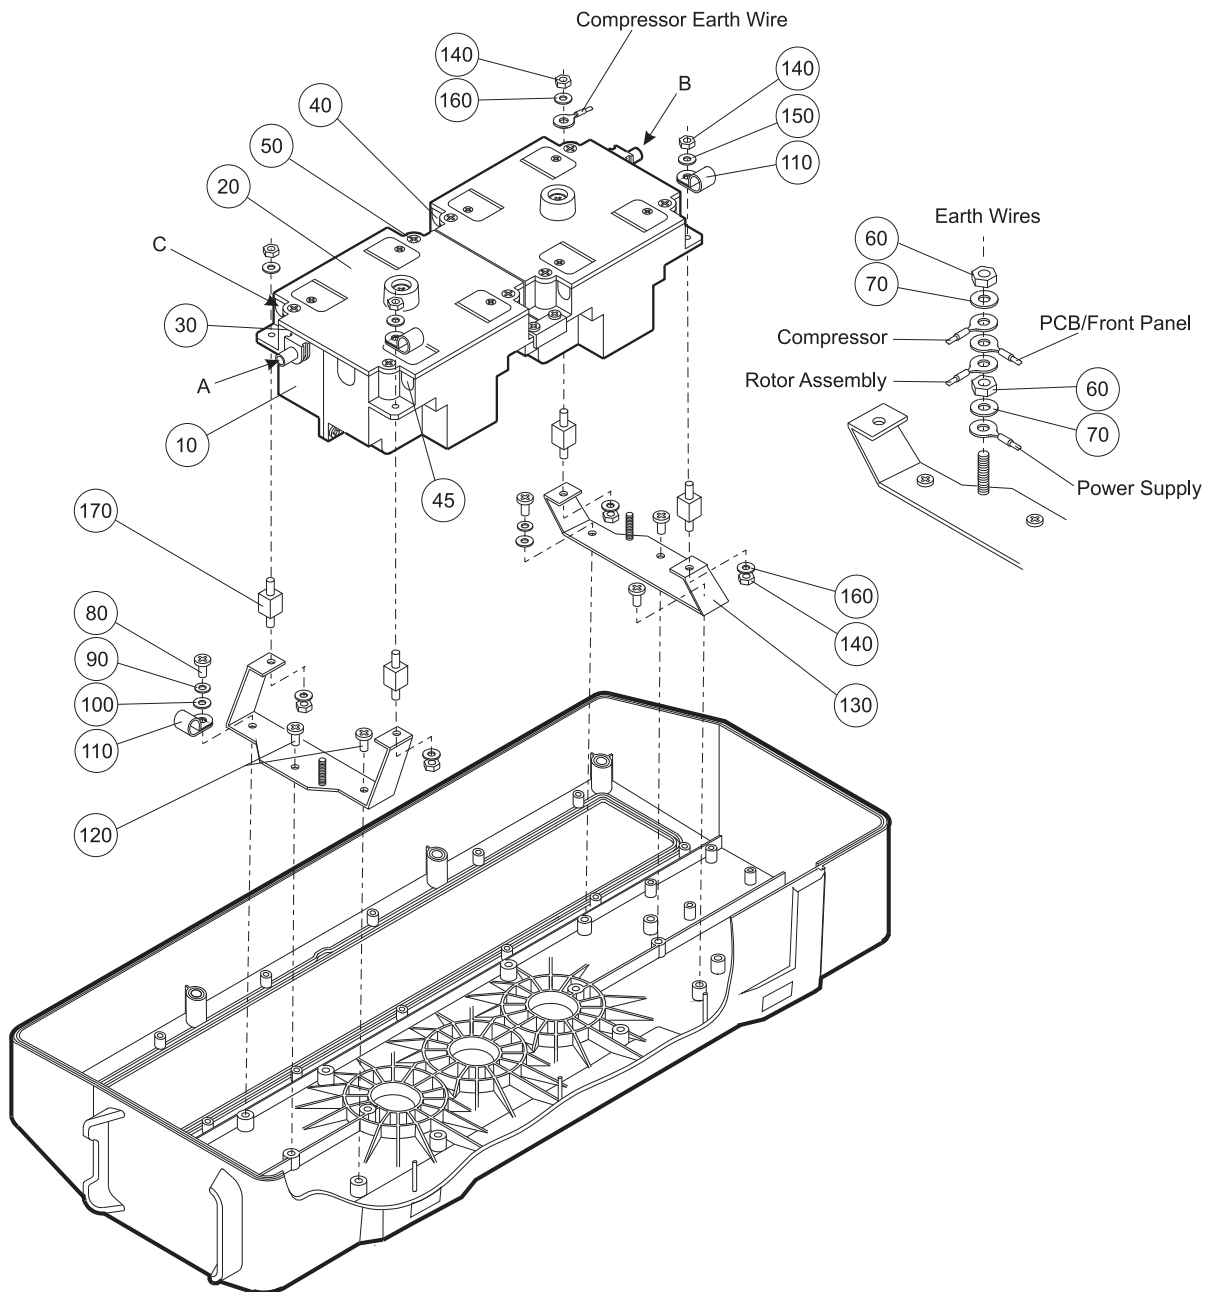

Figure 10 - Remove the Double Compressor Assembly and Disassemble the AV mounts
- 8.2 Remove the screws (Fig 10, Item 50) and the compressor lids (Fig 10, Item 20). Lift the four pairs of power cables, together with the rubber grommets, out from the side of each compressor casing. Make sure the blanking grommets (Fig 10, Item 40) on the inner side of each compressor remain in the compressor casing.
- 8.4 Disconnect the high pressure switch hose and the compressor hose from the compressor (Figure 10, A and B) and disconnect the silencer bag (Page 64, Fig 23, Item 30) from the compressor hose.
- 8.7.1 Screw (Fig 10, Item 80) and washers (Fig 10, Items 90 and 100).
- 8.7.2 'P' Clip (Fig 10, Item 110).
- 8.8 Remove the nuts, washers (Fig 10, Items 140 and 160) and the compressor earth wire from the top of the compressor.
- 8.9 Remove the nuts, washers and 'P' clips (Fig 10, Items 140, 150 and 110) together with the compressor hose. The 'P' clips can remain on the hose.
- 8.10 Remove the double compressor assembly (Fig 10, Item 10).
- 9.2 Install the screw, the washers and the 'P' Clip (Fig 10, Items 80, 90, 100 and 110) to the left compressor bracket. Make sure that the 'P' Clip is around the two of the compressor power cable wires which form the longer loop from point C in Figure 10.
- 9.4 Attach the high pressure switch hose to the compressor (Figure 10, A) and the silencer bag to the compressor hose (Page 64, Fig 23, Item 30). Attach the compressor hose to the compressor (Figure 10, B).
- 9.5 If necessary, replace the compressor lid gaskets (Figure 10, Item 30) as follows:
- 9.5.2 Peel the back off of the new gasket (Figure 10, Item 30) and stick in position on the lid.
- 9.6 Make sure that the blanking grommets (Figure 10, Item 40) are installed in the compressor casings and install the compressor lids (Figure 10, Item 20). Secure the lids with screws (Figure 10, Item 50).
- 10.2.1 The nut and washer (Fig 10, Items 60 and 70).
- 10.2.3 The nut, washer (Fig 10, Items 60 and 70) and the Power Supply earth wire connector.
- 10.3 Remove the screws (Fig 10, Item 120) and the left compressor bracket (Fig 10, Item 130) from the pump casing.
- 10.4 Remove the screw and washers (Fig 10, Items 80, 90 and 100) from the right compressor bracket.
- 10.5 Remove the screws (Fig 10, Item 120) and the right compressor bracket from the pump casing.
- 10.6 Remove the nuts, washers and AV mounts (Fig 10, Items 140, 160 and 170) from each compressor bracket.
- 11.1 Install the AV mounts, the washers and the nuts (Fig 10, Items 170, 160 and 140) to each compressor bracket (Fig 10, Item 130).
- 11.2 Install the right compressor bracket (with the earth label) into the pump casing. Secure the bracket with a screw and washers (Fig 10, Items 80, 90 and 100) at the back, nearest the PCB.
- 11.3 Install screws (Fig 10, Item 120) to the remaining holes in the bracket.
- 11.4.2 The washer and nut (Fig 10, Items 70 and 60).
- 11.4.4 The washer and nut (Fig 10, Items 70 and 60).
- 11.5 Install the left compressor bracket and secure with the screws (Fig 10, Item 120).